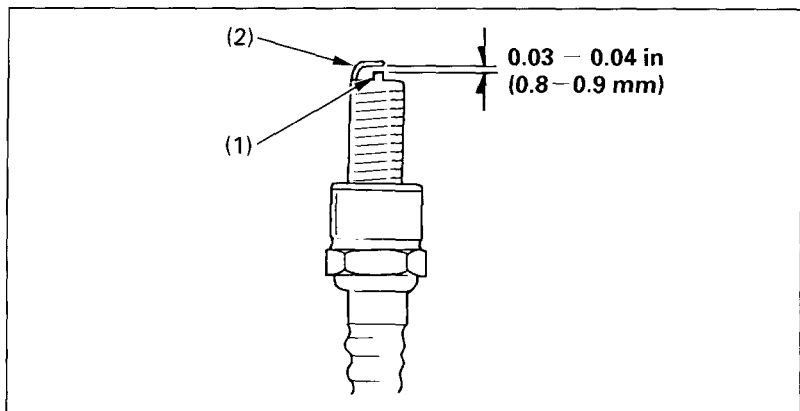

Fig. 4-14 (1) Center electrode
4. Visually inspect the spark plug electrodes for wear. The center electrode (Fig. 4-14) should have a flat tip and sharp edges, and the side electrode (2) should not be eroded. If the electrodes and insulator tip appear unusually fouled or burned, we suggest that you contact your authorized Honda dealer.